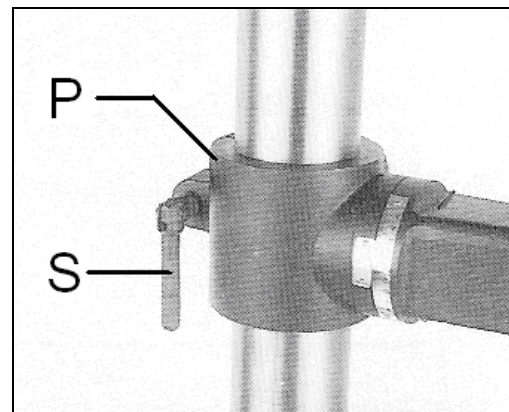

Fig 4
Screw the lock handle (S, Fig 4) into the column flange (P).